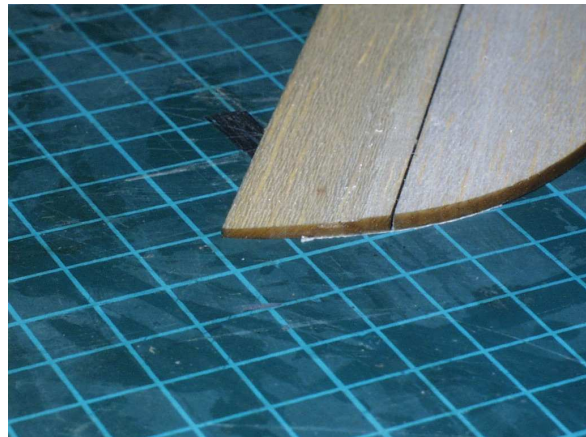

Figure 5.2: Elevator shaved down
- Turn over and shave down the TE as much as practical, try to get to at least 1mm (1/25") thin, preferably closer to 0.5mm (1/50") (Figure 5.2)